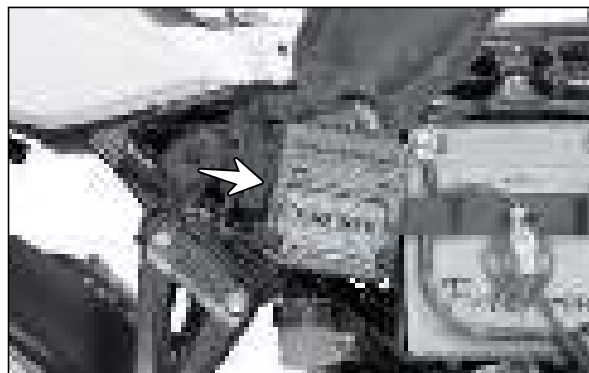

Fig. 5.46
- ECU (engine control unit) is placed below the rider seat assembly near the battery. ECU unit can be checked by diagnostic tool. (Fig.5.46)